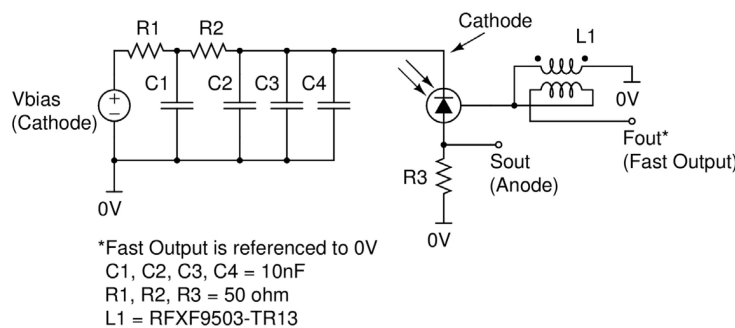

Figure 2. The schematic for the MicroFC-SMA-30035 board.
- The schematic of the board is shown in Figure 2, with the two outputs, S_{out} and F_{out}, labelled.